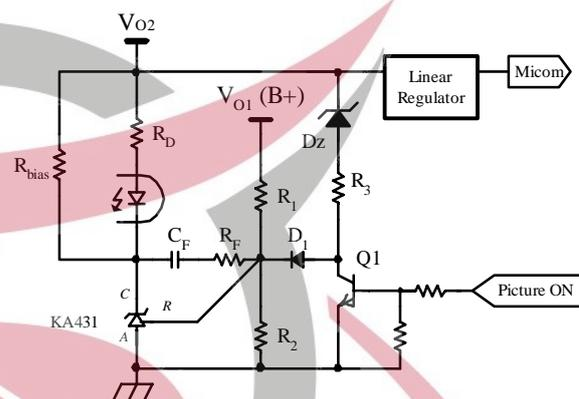

Figure 15. Typical Feedback Circuit to Drop Output Voltage in Standby Mode
**6. Burst Operation :** In order to minimize the power consumption in the standby mode, the FSCQ-Series employs burst operation. Once FSCQ-Series enters into the burst mode, FSCQ-Series allows all output voltages and effective switching frequency to be reduced. Figure 15 shows the typical feedback circuit for C-TV applications. In normal operation, the picture on signal is applied and the transistor Q1 is turned on, which de-couples R3, Dz and D1 from the feedback network. Therefore, only Vo1 is regulated by the feedback circuit in normal operation and determined by R1 and R2 as